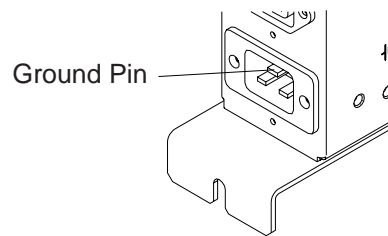

Figure 0-8. Ground Pin of the Controller Expansion ac Outlet Distribution Box
- Check that electrical continuity is assured between each machine installed in the controller expansion (service processor, network node processor, modem, optical disk drive, and so on) and the ground pin of the ac outlet distribution box (see Figure 0-8).